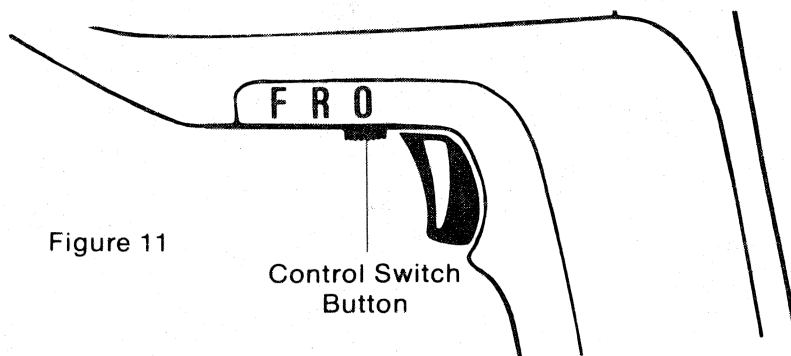

Figure 11
4. When storing Drill move Control Switch Button to the rear end of its slot to LOCK Trigger Switch "OFF" (Figure 11). This will prevent accidental battery discharge.